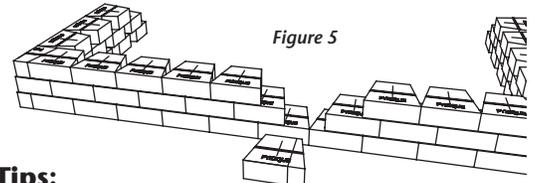

Figure 5
- There will come a time when a full wallstone will not work in the opening as you work away from the corners. Cut this wallstone to fit. See Figure 5.